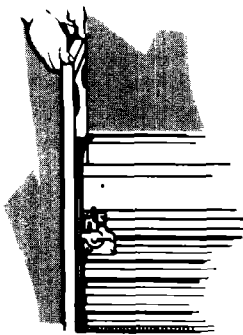
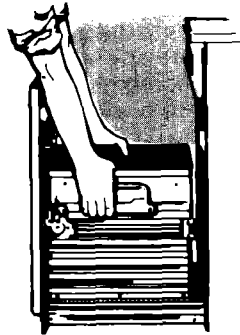

Figure 3
Figure 4
A. Grip handle and raise front of drawer until it clears stops. See Figure 3.
B. Grasp side ridges of the drawer front and lift drawer out. See Figure 4.
10. To replace the drawer, grasp side ridges of the drawer (Figure 4). Place drawer onto tracks lifting the front to clear stops (Figure 3). Close drawer.